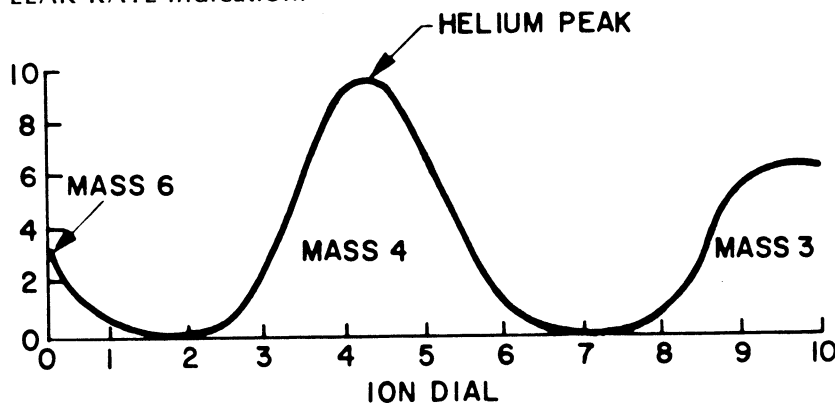

Figure 5-11. Leak Rate Indication as Ion Voltage is Varied
16. Rotate the ION control slowly clockwise from zero until the helium peak is noted on the LEAK RATE meter. As shown in the graph, Figure 5-11, the reading will first drop, then rise to the helium peak, then fall away from the peak and then rise again.